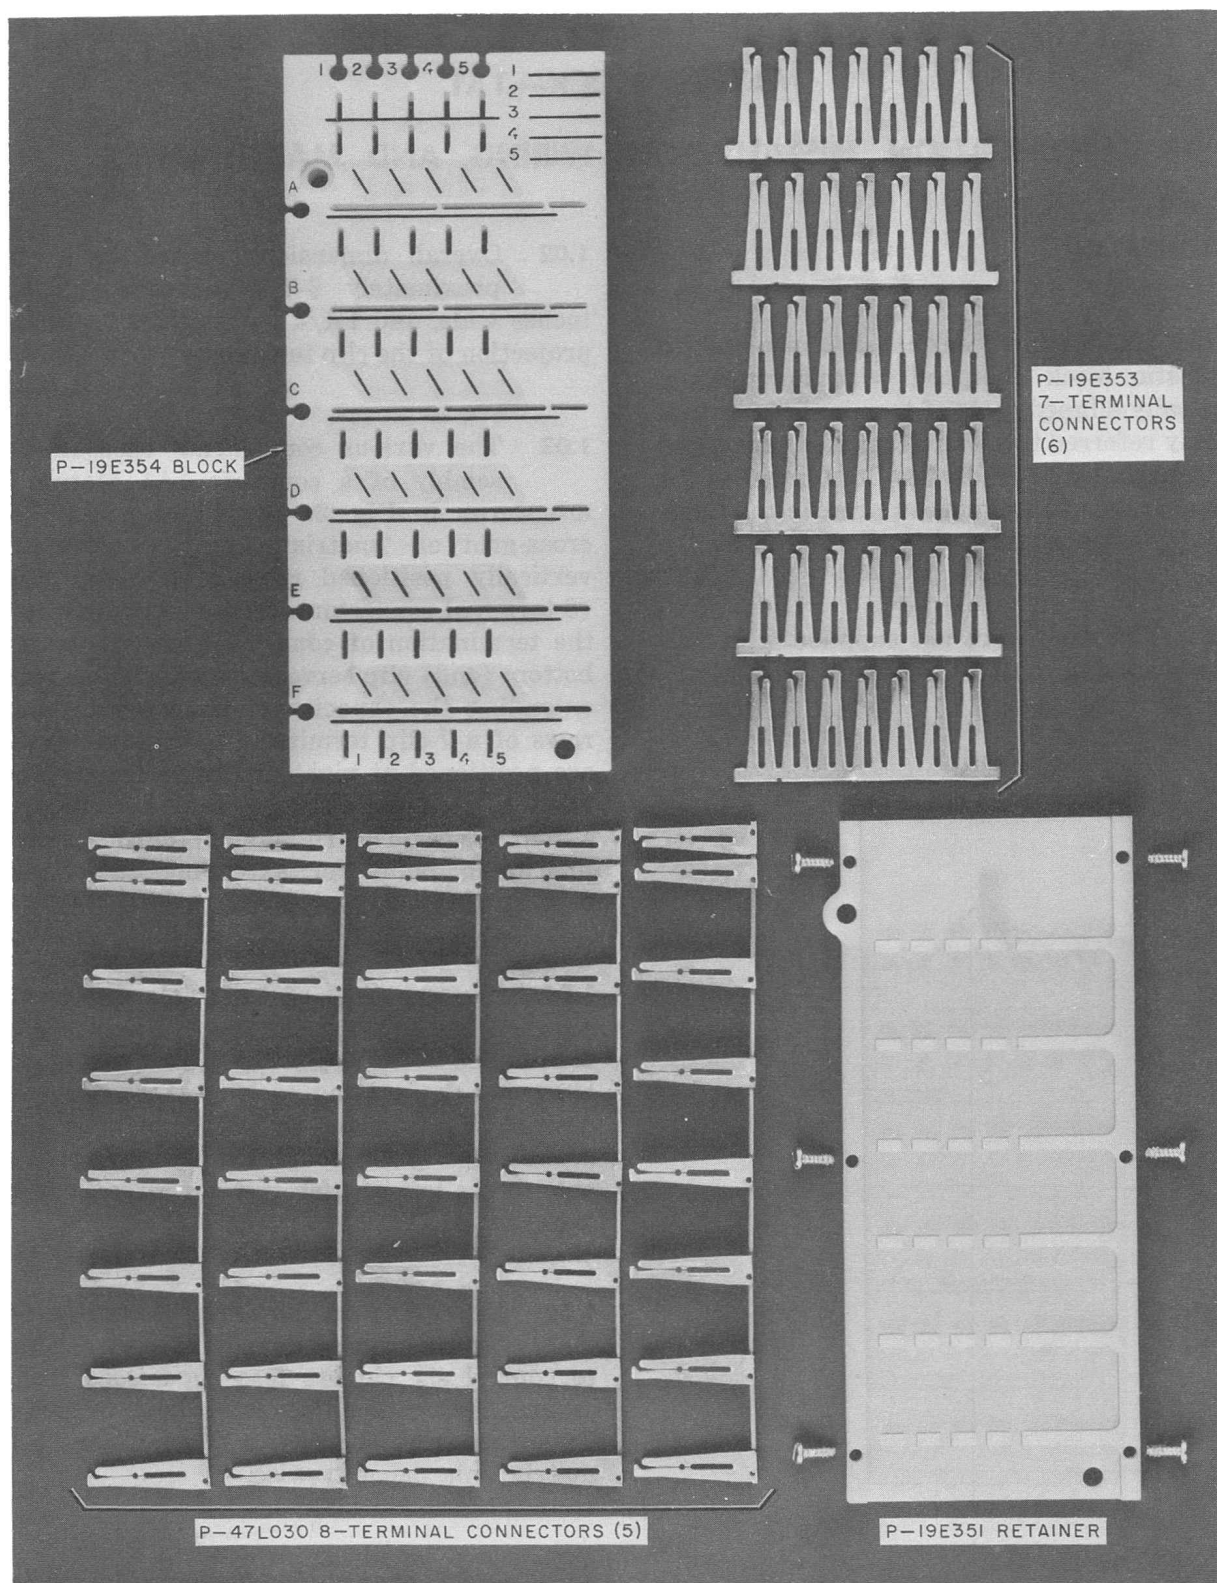
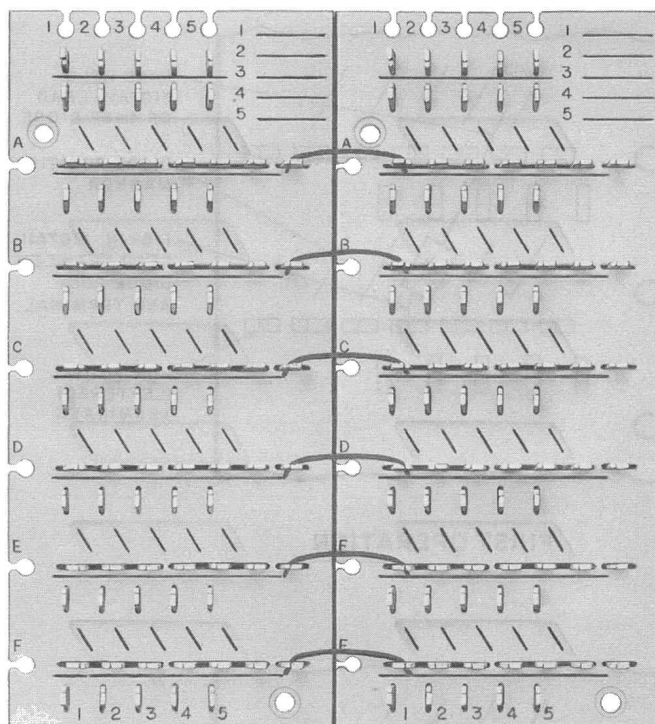

Fig. 2 — 1A1 Matrix Block — Components
Fig. 3 — Modular Array (Multiplied Horizontally)
1.03 The various components used in the assembly of a complete 1A1 Matrix Block are shown in Fig. 2. It will be noted that the cross-grid or "matrix" array consists of five vertically positioned rows of a 8-clip terminal (8-terminal connector). The uppermost clip is for the termination of connecting circuit leads. The bottom (end) clip serves as a multiplying point for extending the capacity of the matrix unit. Six rows of a 7-clip terminal (7-terminal connector) are positioned at right angles to these. The left hand clip on each serves to terminate external circuit leads. The right side (clip) serves as a multiplying point for extending the horizontal capacity (Fig. 3, 4, and 5).
2.01 The 1A1 Matrix Block should be mounted on a flat surface, using mounting holes provided. Where extended capacity beyond one block is necessary, modular arrays (Fig. 3, 4, and 5) may be employed. Respectively, these offer the following additional capacities: